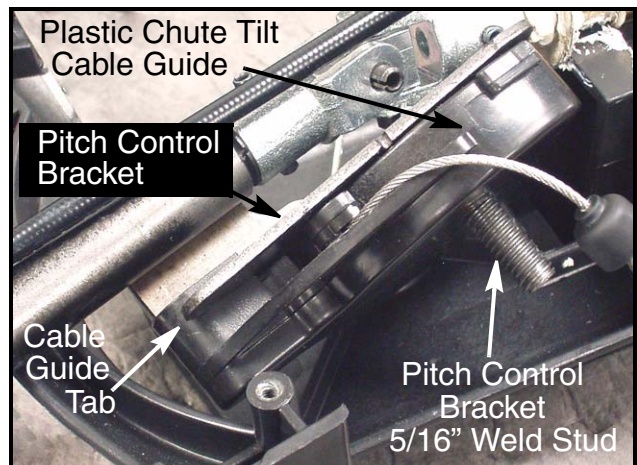

FIGURE 14
23. Ensure that the plastic chute tilt cable guide is installed (if removed earlier) onto the 5/16" threaded weld stud of the pitch control bracket. Ensure that the tab on the plastic chute tilt cable guide is set into the slot of the pitch control bracket. See Figure 14.